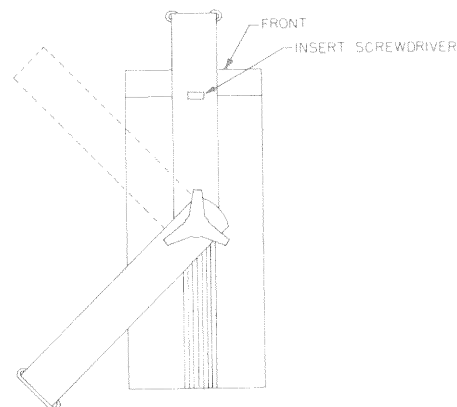

Figure 4. Removal of Front Assembly Using Handle/Stand as Fulcrum
In mounting the instrument on a prepared panel, the circuit board inside the case must be repositioned forward by 1/8 inch. To perform this modification without damage to the instrument, the following instructions should be carefully followed. (See Figures 4 and 5.)
1. Stand case on back end with inner handle locked in the front position as shown in Figure 4.